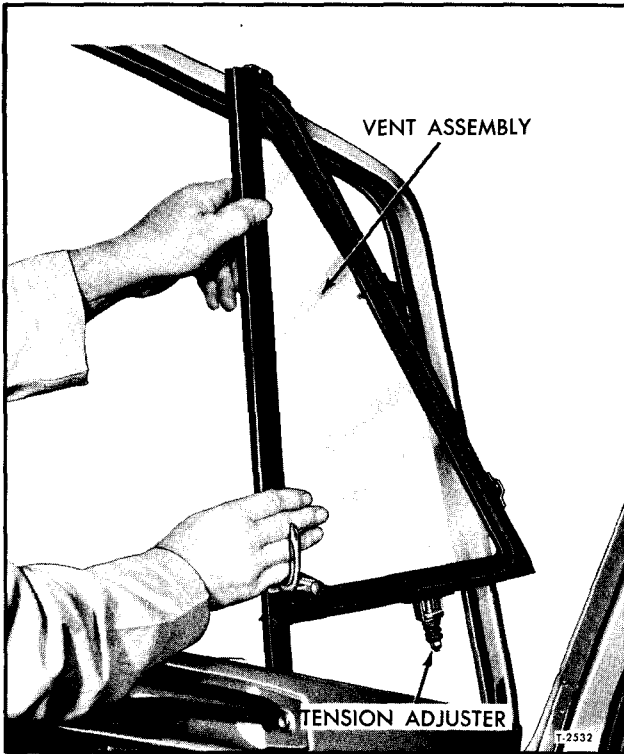

Figure 24—Replacing Vent Window
5. Referring to figure 24, rotate the vent window assembly and carefully lift it up and out of door.
1. With window glass down, lower the glass channel portion of vent assembly down into the door and rotate it to locate in position (fig. 24).